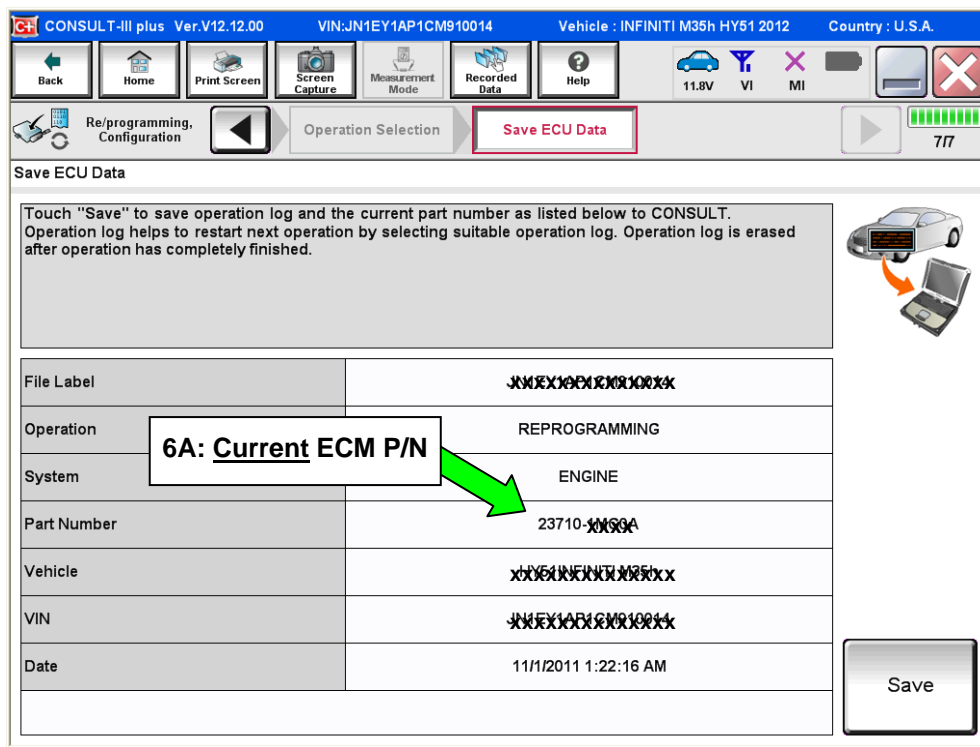

Figure 2
5. Follow the on-screen instructions and navigate the C-III plus to the screen shown in Figure 2 on the next page.
6. When you get to the screen shown in Figure 2, confirm reprogramming is needed as follows.